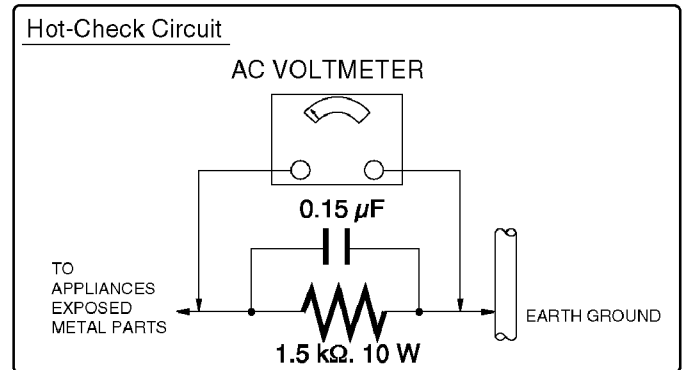

Figure. 1
(See Figure 1.)
2. Connect a 1.5 k Ω , 10 W resistor, in parallel with a 0.15 μ F capacitor, between each exposed metallic part on the set and a good earth ground, as shown in Figure 1.